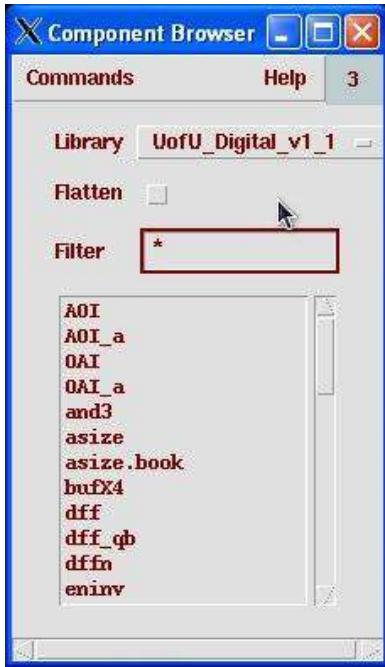

Figure 3.4: Component Browser dialog
4. Adding Instances: An instance (either a gate from the standard cell library, or a cell that you've designed earlier) can be placed in the schematic by selecting **Add** → **Instance** or pressing **i** on the keyboard, and the **Component Browser** dialog appears (shown in Figure 3.4). Choose a library from the **Library** list and then choose the cell from the list box and the outline of the component's symbol will appear when your cursor is in the schematic window. Left clicks will add instances of that cell to your schematic.